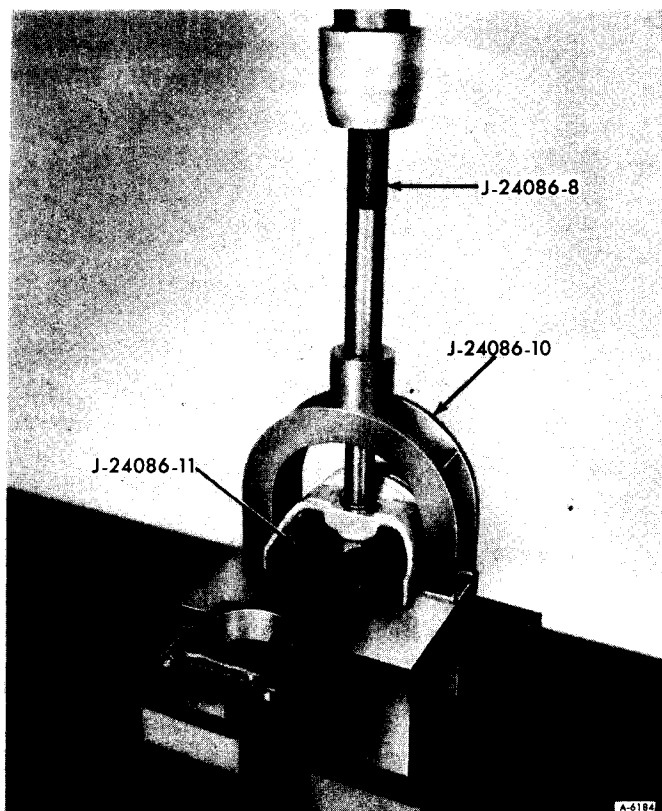

Figure 55—Removing Piston Pin with J-24086-8
1. Position Tool J-24086-11, the Support Fork of the piston pin tool set, between the connecting rod and piston (figure 55).